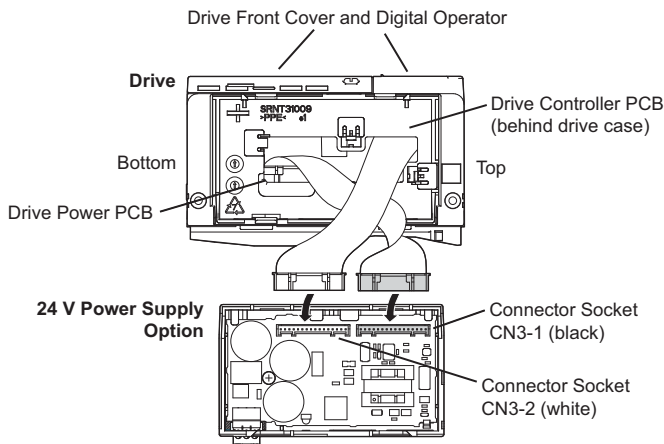

Figure 16 Cable Positioning (PS-V10S)
3. Confirm both cables are plugged in correctly according to **Figure 16**.
NOTICE: Connect the cables exactly as shown in **Figure 16**. Reversing the cable connections may damage the 24 V Power Supply Option.